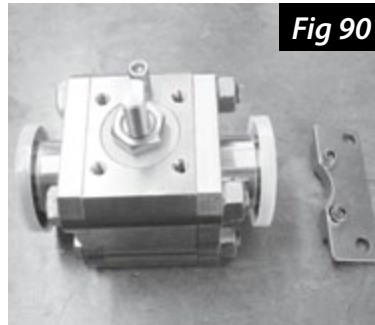

Fig 90
a. Position the lock plate on the same side of the valve as the valve body bolt nuts and secure the plate to the valve using the 3/16" hex key and the two socket head screws that were previously removed (Fig 90 & 91).